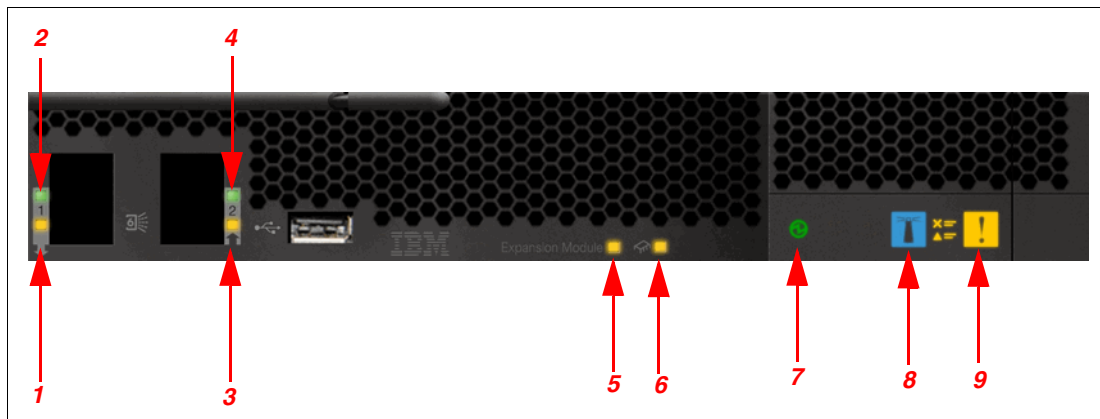

Figure 13-3 Expansion enclosure LEDs layout
IBM Flex System V7000 expansion enclosure includes two expansion canisters that are located in the rear of the expansion enclosure. The expansion canister has no controls and does not include battery unit. Figure 13-3 and Table 13-7 show expansion canister LEDs you can use to determine the system state and appropriate actions to take to resolve the issues.
1. Start by considering the states of the power LED 7 for each 4939 expansion canister, as shown in Figure 13-3 on page 579 and Table 13-9 here. Continue to troubleshoot the canister until the power LED is ON.